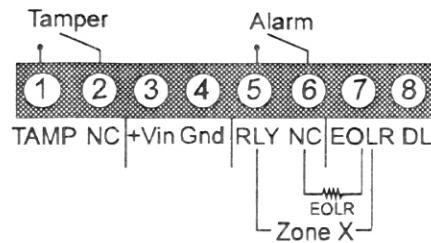

Figure 1: Terminal Block
- Connect the wires to the terminal block (as shown in figure 1).
Terminal 7: Optional end of line resistor - see figure 1.